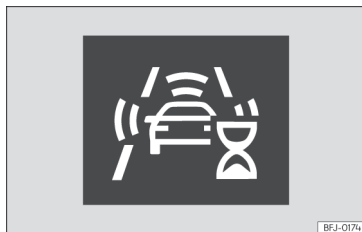

Fig. 121 On the instrument cluster screen: indication of the system's initial self-calibration.
- In the first few instants of driving after switching on the ignition, due to the system's initial auto-calibration. During this period, a status icon Fig. 121 is displayed.